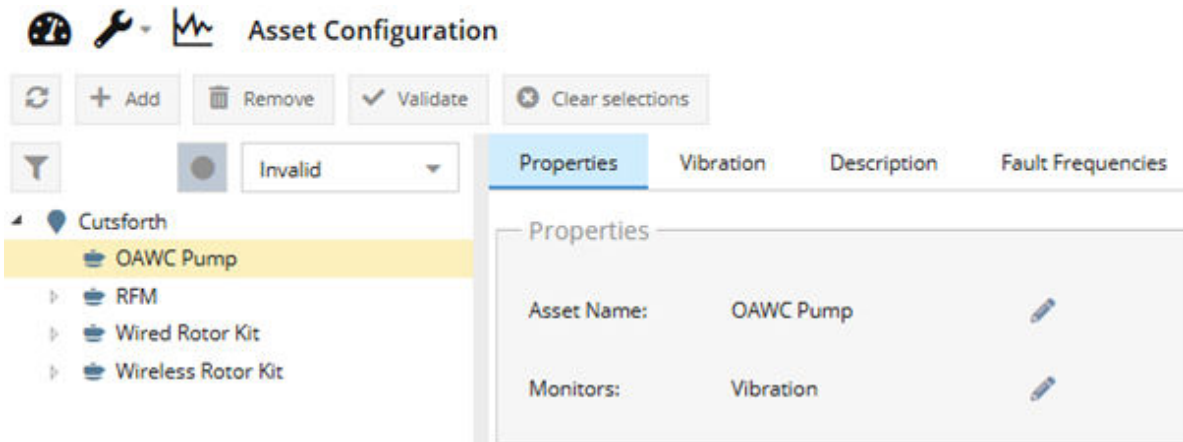
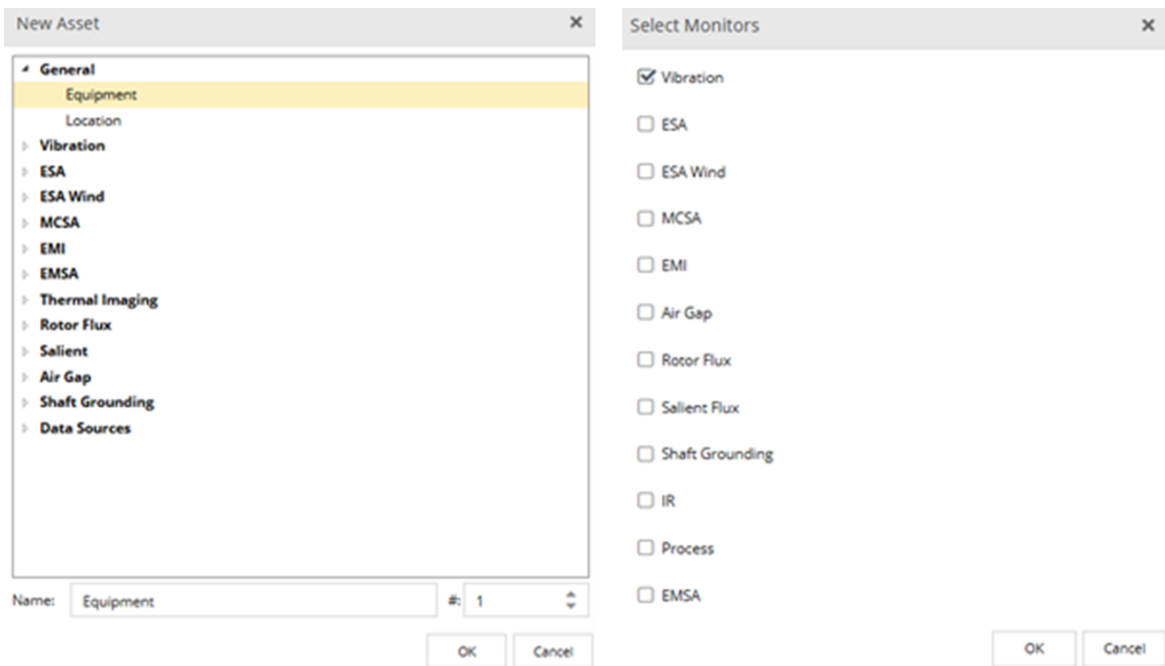

Figure 9. Adding new equipment to the asset hierarchy tree
Figure 10. Vibration Monitor Selection
- Within the InsightCM application, Click the Configuration button (🔧) and ensure that you are on the Asset Configuration page (see Figure 9). If you need to create your equipment in the tree, right-click on the parent for your equipment, select "Add child assets", "General" and "Equipment", and press "OK". Then the "Select Monitors" dialog will appear and select "Vibration" (see Figure 10).